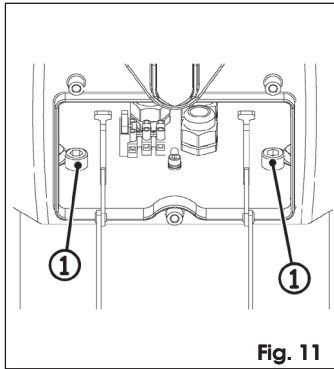

Fig. 11
9. Re-open the central compartment and tighten the two screws (Fig. 11 ref. ①).